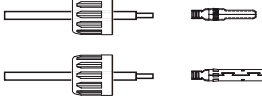

Figure 4.9 Insert the Wire into the Connector Cap nut and contact pin
2. Insert the wire into the connector cap nut and contact pin. (see Figure 4.9)